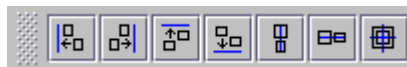

Figure 26 : Alignment tool bar
- ◆ Alignment tool bar (Figure 26) : it provides alignment commands of components or equipments in an architecture :